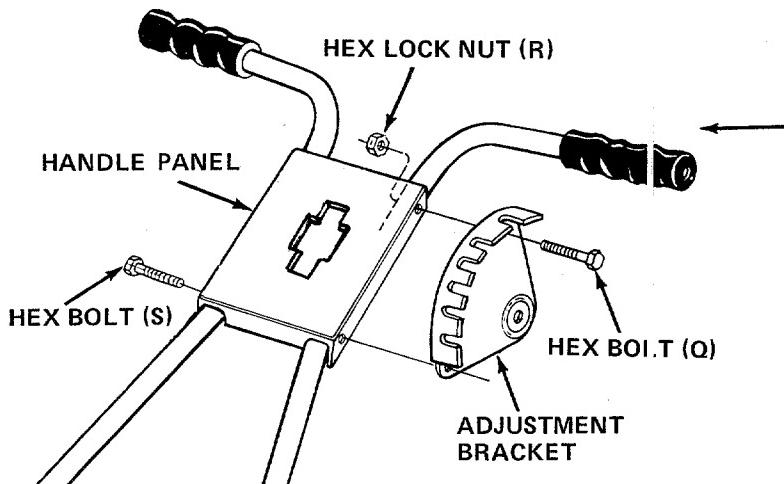

FIGURE 7
8. Place the handle panel over the upper handles and line up the holes. See figure 7.
9. Secure the right hand side of handle panel w/ two one-inch long hex bolts (S) and hex lock nuts (R). Do not tighten.
10. Secure the adjustment bracket to the left hand side of handle panel with 1-1/4 inch long hex bolts (Q) and hex lock nuts (R). See figure 7.